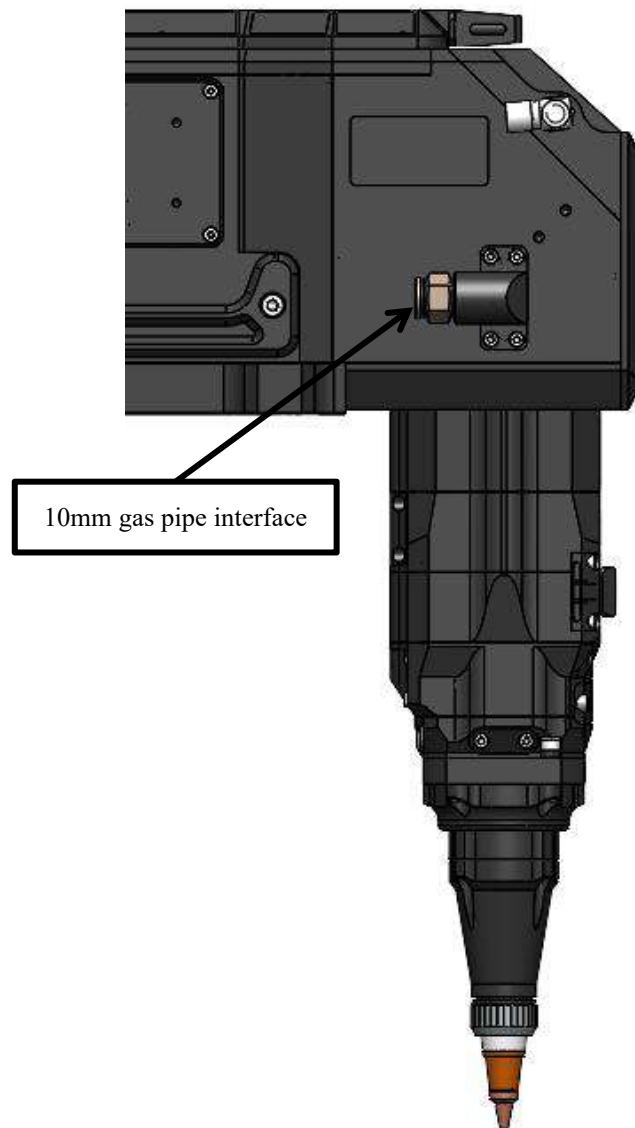

Figure 1.5
- ① The inlet is connected to a 10mm gas pipe, as shown in Figure 1.5, for docking cutting gas; input pressure $< 3.0\text{Mpa}$.